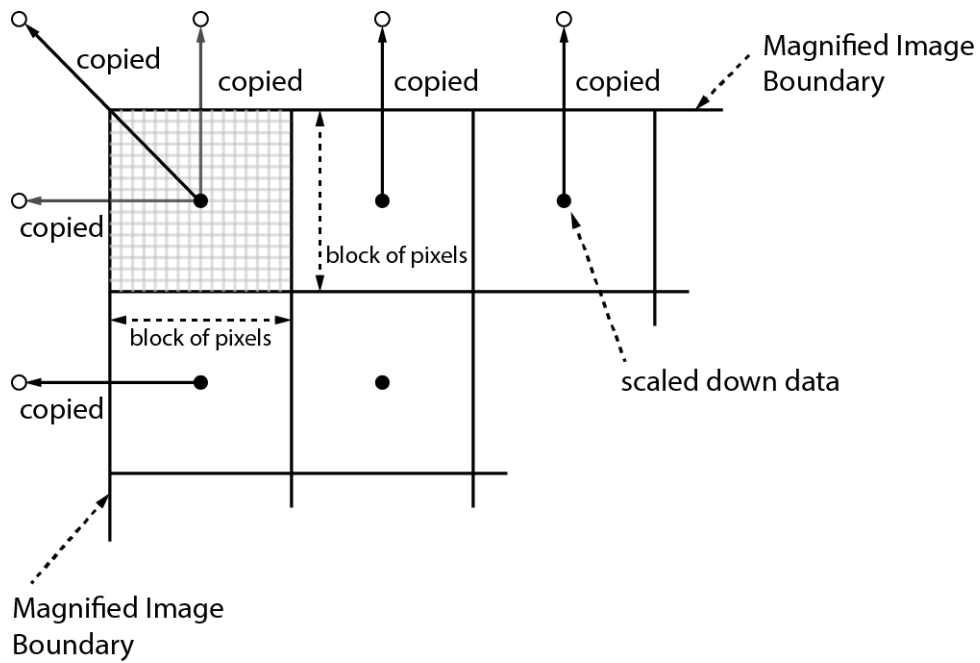

Figure 8.17 Bilinear Interpolated Magnification
2. Enable the Flat Field Correction feature by using the 'sfc' command. The Flat Field data will be enlarged via Bilinear Interpolation as shown in the Figure 8.17.